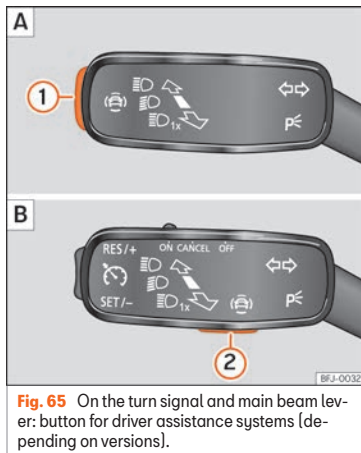

Fig. 65 On the turn signal and main beam lever: button for driver assistance systems (depending on versions).
- Press » Fig. 65 ① or ② briefly to open the **Driving aids** menu.